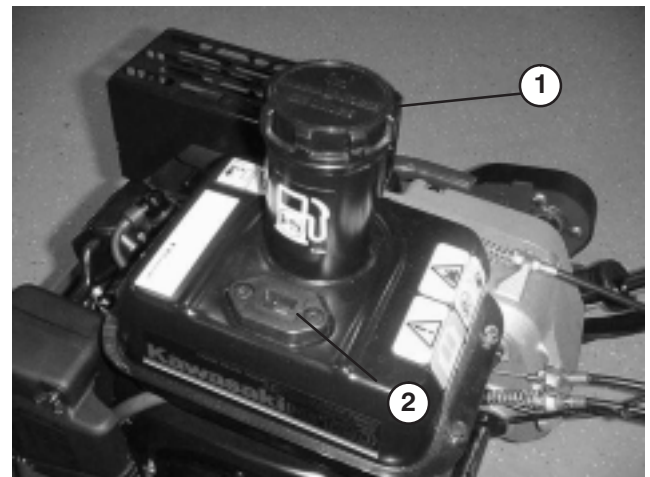

Figure 9
1. Clean around fuel tank cap and remove cap from tank (Fig. 9). Using unleaded gasoline, fill fuel tank no higher than to bottom of filter screen. **Do not overfill.**